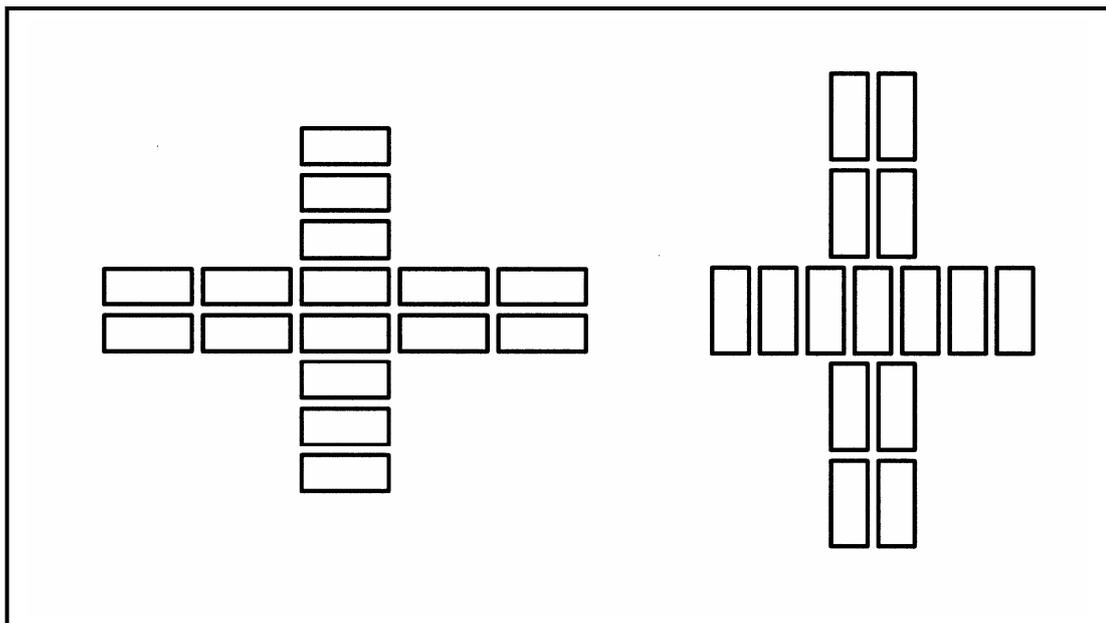

FIGURE 1.5
1.5 FIGURE 1.5 below shows two consecutive plan courses of a brick wall.